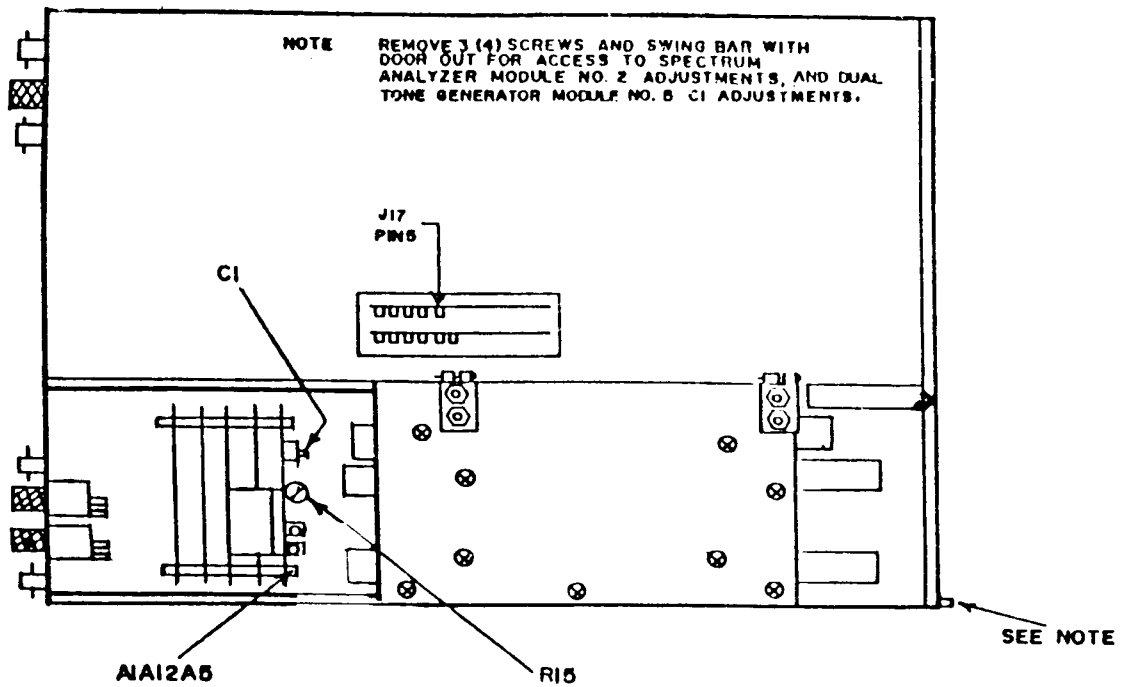

Figure 2. Test instrument - bottom view.
(1) Adjust A1A12A5C1 (fig. 2) until frequency counter indicates 1000 Hz  $\pm$ 0.1 Hz (R).
(2) Adjust A1A2A5R15 (fig. 2) until frequency counter indicates 1000 Hz (R).